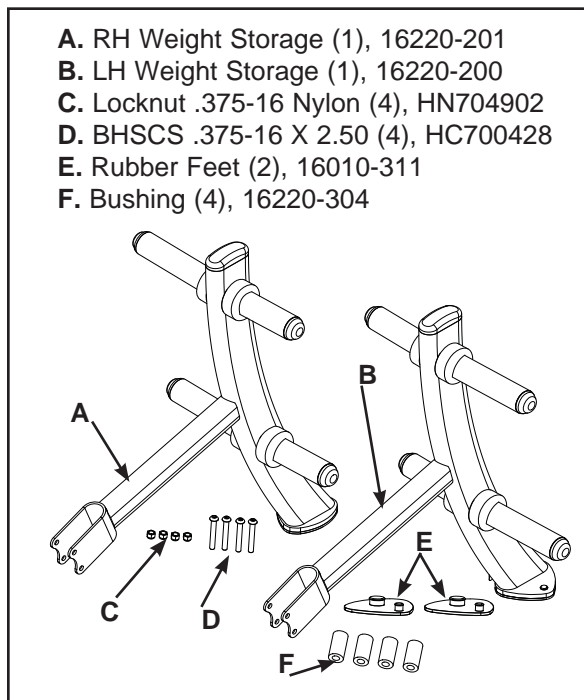

Figure 1
2. Verify weight storage attachment parts. See Figure 1.